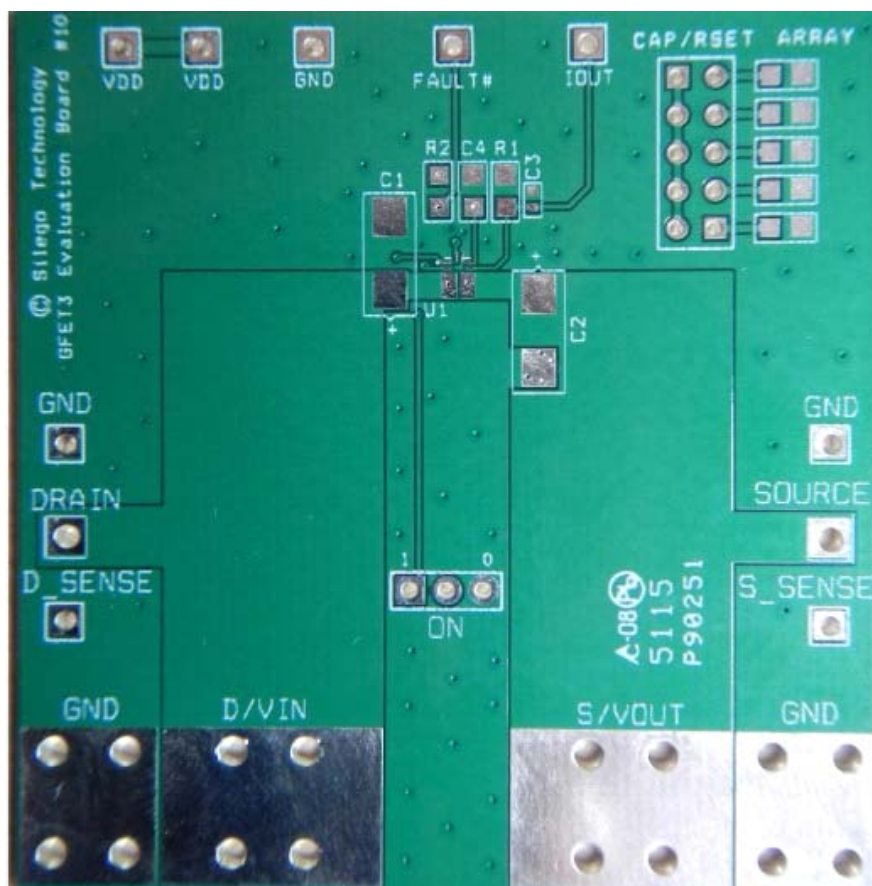

Figure 8. SLG59M1717V Evaluation Board
2. Since the VIN and VOUT pins dissipate most of the heat generated during high-load current operation, it is highly recommended to make power traces as short, direct, and wide as possible. A good practice is to make power traces with absolute minimum widths of 15 mils (0.381 mm) per Ampere. A representative layout, shown in Figure 8, illustrates proper techniques for heat to transfer as efficiently as possible out of the device;
A GFET3 Evaluation Board for SLG59M1717V is designed according to the statements above and is illustrated on Figure 8. Please note that evaluation board has D_Sense and S_Sense pads. They cannot carry high currents and dedicated only for RDS_{ON} evaluation.